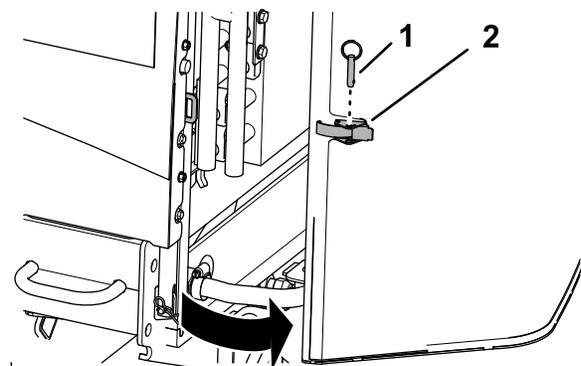

Figure 62
1. Remove the ball pin from the screen latch (Figure 62).